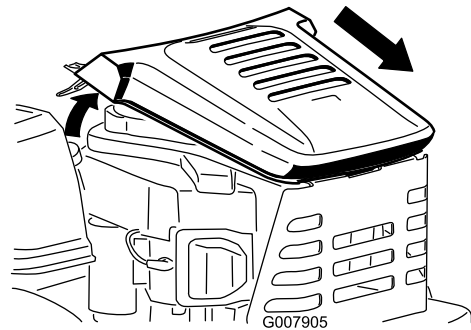

Figure 27
2. Lift the engine cover away from the machine (Figure 27) then move the cover rearward to